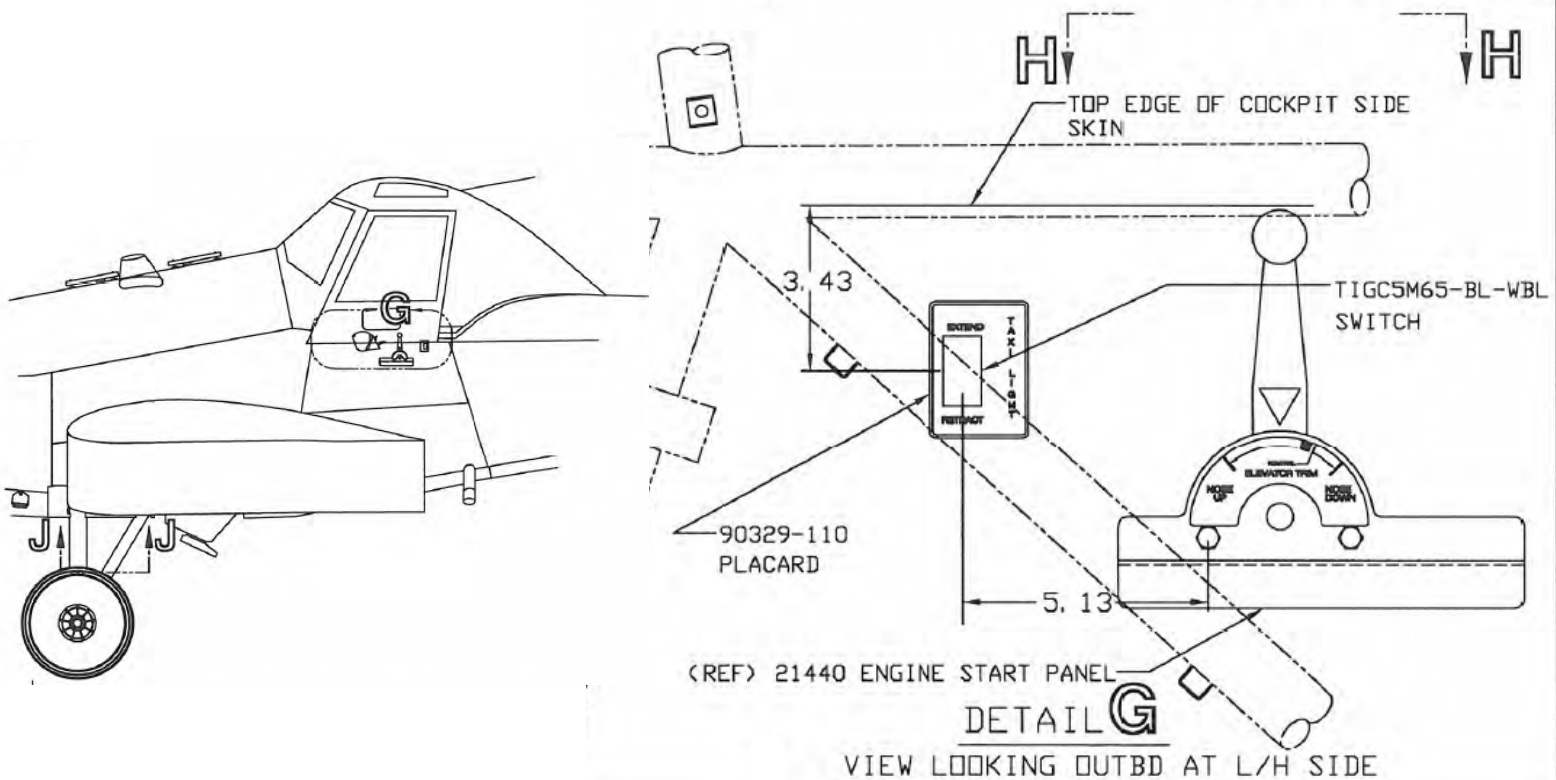

Figure 10: Location of 90329-110 Placard and 90329-108 Placard
15. If 90329-110 placard not installed; install 90329-110 placard as shown in Figure 10.
16. If 90329-108 placard not installed; remove existing placard and switch. Replace with 90329-108 placard and MS35059-21 switch. Refer to Figures 10 and 11.
17. Take note of the location of the Taxi Light, MS3108B18-5S, Cannon Plug and AN3095-11A Light Assy. Refer to Figures 10 and 12.